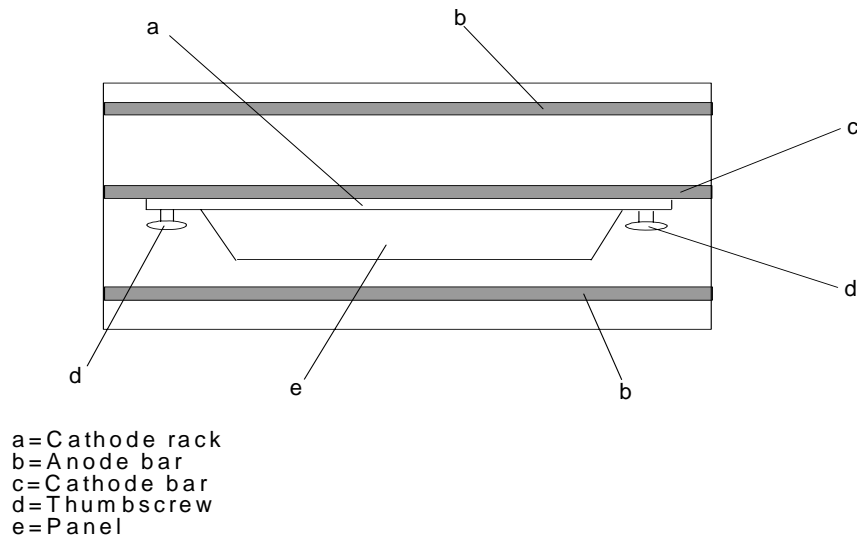

Figure 9: Attaching the panel to the QP-912 cathode bar.
4. Clamp the panel between the cathode rack and Cathode Bar by tightening the thumbscrews on both sides of the panel. See Figure 9.